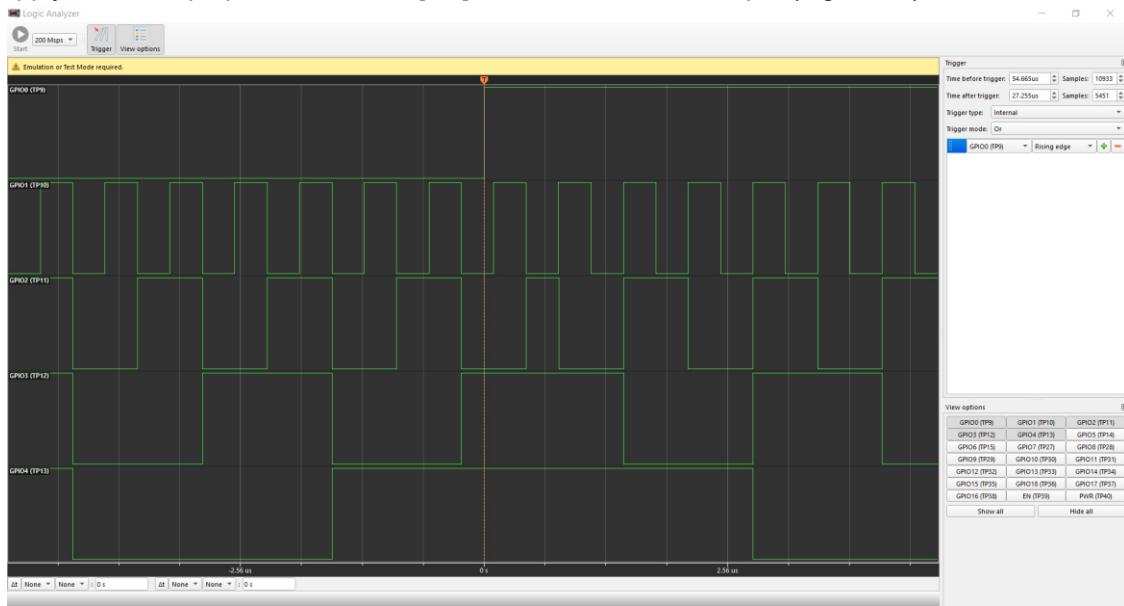

Figure 17: Waveforms of 4-bit counter after Emulation
13. Now the counter is loaded onto the FPGA device. GPIO [4:1] will have the outputs of the counter on them. Apply oscilloscope probes to GPIO [4:1] to view the counter output (Figure 17).